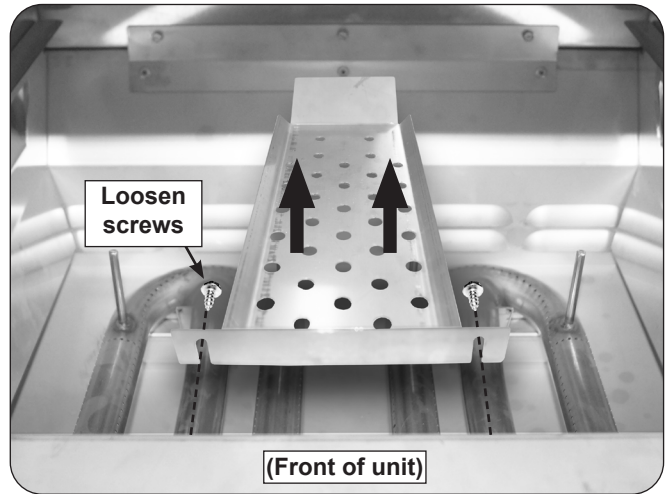

Fig. 47-1 Heat distribution grid removal
3. Loosen the two 5/16" hex screws and remove the heat distribution grid by lifting up, then outward, freeing the cutouts from the two loosened screws (see Fig. 47-1).